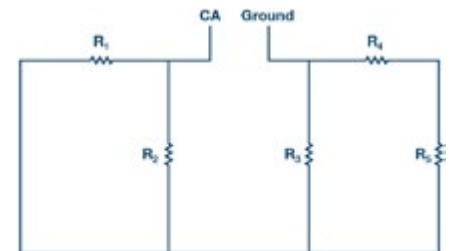

Figure 5: Measuring the Thévenin resistance, R_{TH} .
d) Find R_{TH} : Remove the source voltage V_S and construct the circuit as shown in Figure 5. Use the ALM1000 ohmmeter tool to measure the resistance looking into the opening where R_L was. This gives R_{TH} . Make sure there is no power applied to the circuit before measuring with the ohmmeter and that the ground connection has been moved as shown.